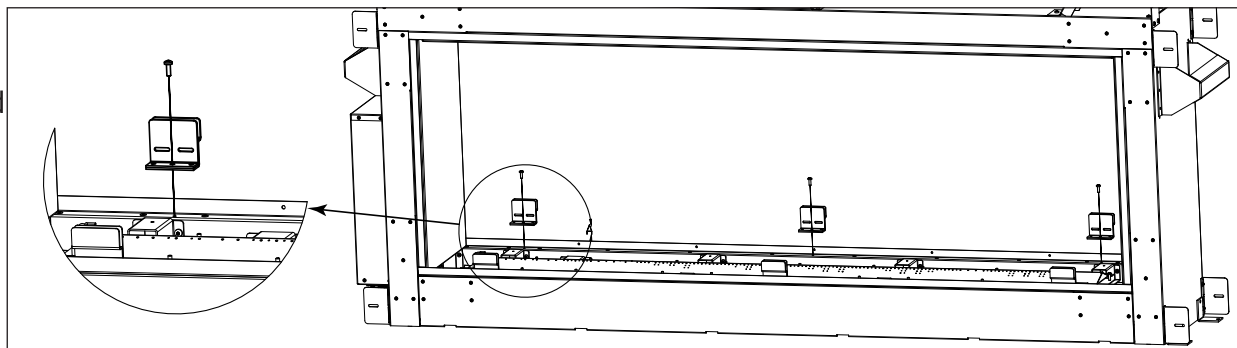

Figure 26: Media Wind Guard Mount
5. Unscrew the 3 T20 screws and use them to attach the 3 extra wind guard mounts that came with the fireplace (Figure 26).